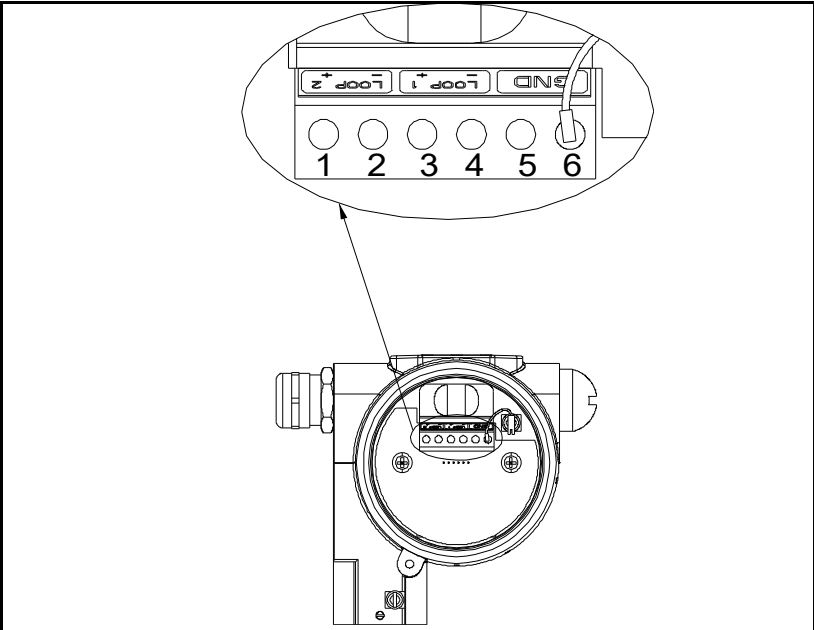

Figure 4: Terminal Block Connections
4. Make connection to the terminal block as shown in Figure 4 on the next page. Connect the cable as follows: